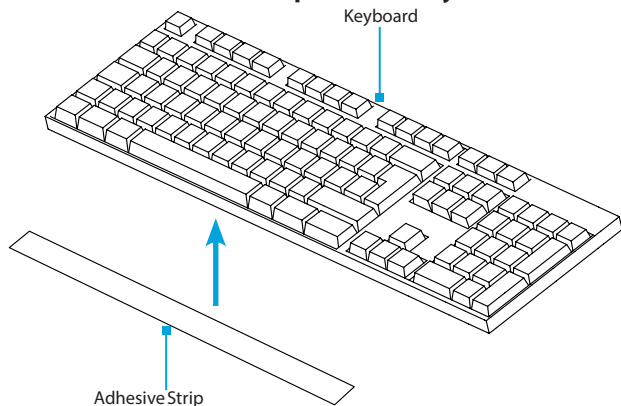

Figure 12
4. Remove the **Plastic Backing** from the second **Adhesive Strip** and stick it to the surface of the **Keyboard Tray** so that it is aligned with the strip located on the **Keyboard**. (Figure 12)